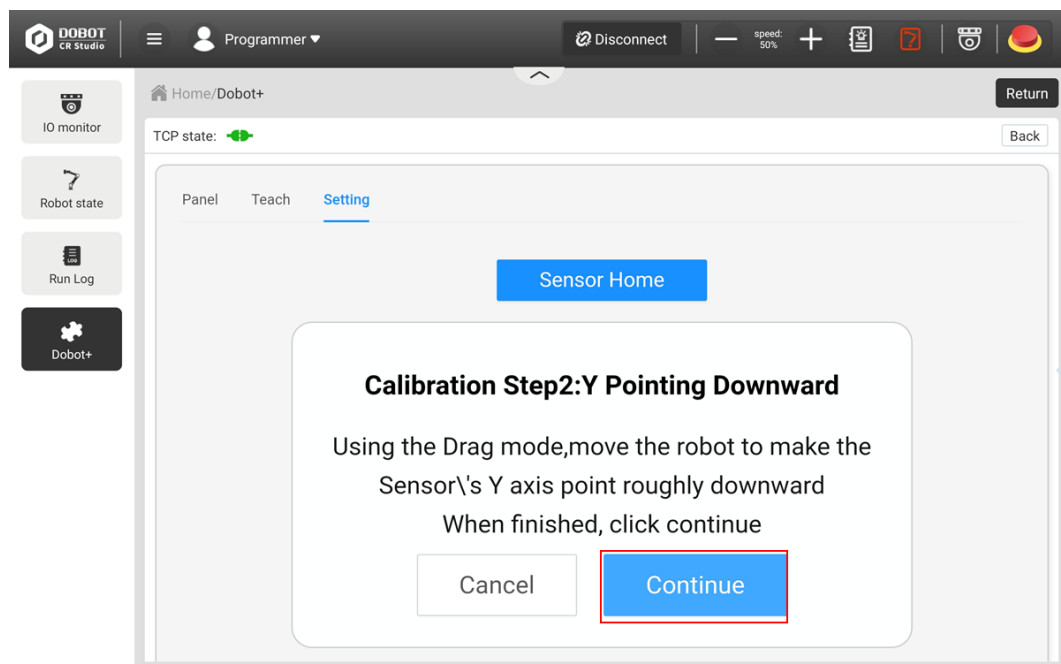

Figure 4.4 Calibrate Y-axis direction
Step 4 Click **Continue** in the Setting page to calibrate the Y-axis direction, as shown in Figure 4.4.